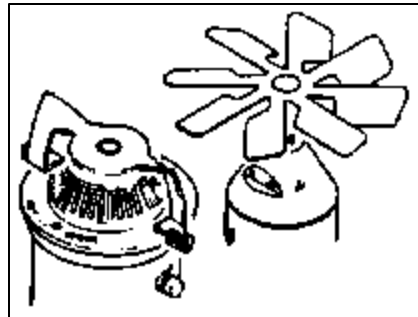

Figure 16. Bomb fuzes with arming vanes.
- (c) Fuzes are mechanical, electrical, or chemical devices used to initiate bombs when desired (see Figure 16). They are generally placed in the nose or tail section, internally or externally. The fuzes may not always be visible, as they are often covered by the fin assembly. As shipped, fuzes are in a safe (unarmed) condition and cannot function until armed.